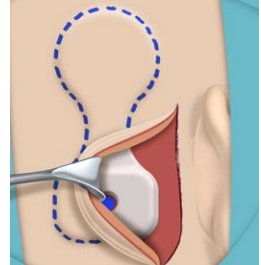

Fig.13: Checking of pocket size with the template
4. Check with the OSI200 Implant template if the pocket size is suitable and if the actuator position is according to plan (Fig.13)